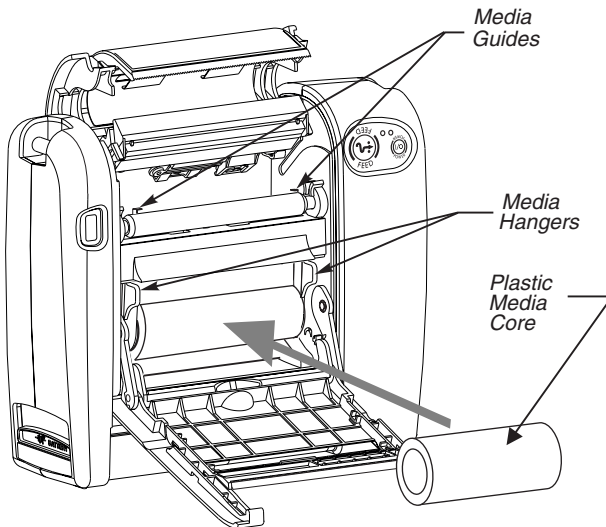

FIGURE 11
5. Separate and hold open the media hangers (refer to Figure 11).
6. Place the plastic media core (refer to Figure 11) onto the media hangers.